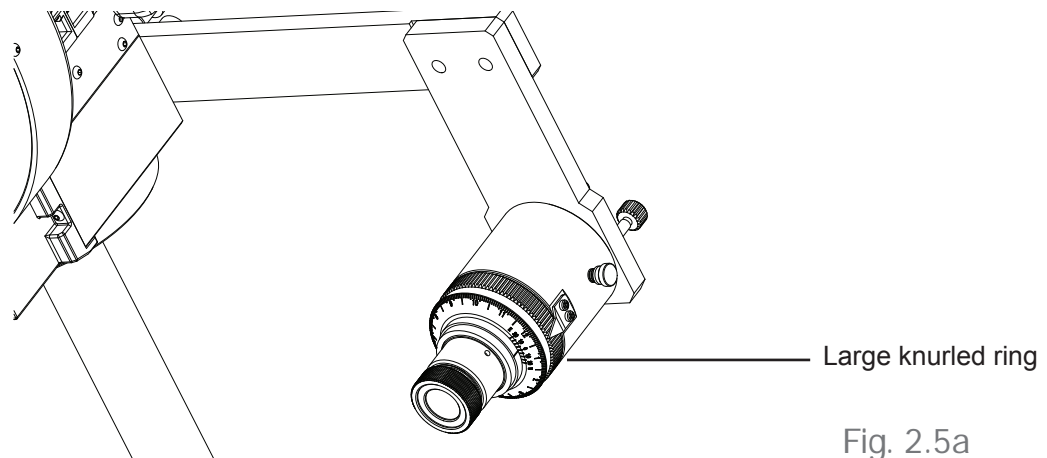

Fig. 2.5a
2. Rotate the large knurled ring on the polar scope for exactly half a turn (Fig 2.5a).